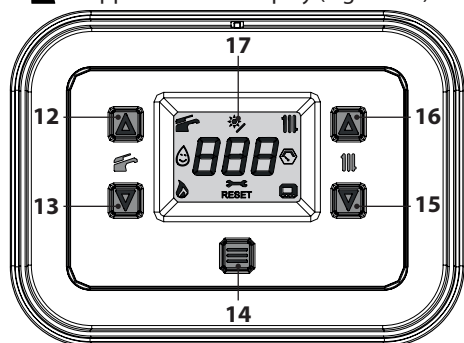

Figure 2.5
- Press button 14 for 1 second until the symbol  appears on the display (Figure 2.5).
The heating delivery temperature of the hot water can be adjusted using the buttons 15 (decrease) and 16 (increase) (Figure 2.5) to between a minimum of approx. 25°C and a maximum of approx. 80°C. The first time one of those buttons is pressed, the "set" value is displayed. The second time it is pressed this can be changed.
If the room temperature is not comfortable, you can increase or decrease the heating system delivery temperature by $\pm 15^{\circ}\text{C}$ using the 15 (decrease) and 16 (increase) buttons (Figure 2.5).
The domestic hot water temperature can be adjusted using the 12 (increase) and 13 (decrease) buttons (Figure 2.5) from a minimum of approx. 35°C to a maximum of approx. 60°C . The first time one of these two buttons is pressed, the "set" value is displayed. The second time it is pressed, the value can be changed.